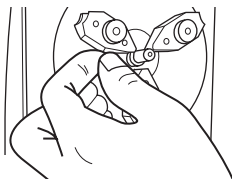

Fig. 1.1
For desired ring holding setup, loosen all three Locknuts (1) and reverse the three Self-Centering Jaws according to the diagram below. Secure the ring firmly in the grooves of the three Self-Centering Jaws by turning the Chucking Knob (5) clockwise (**Fig. 1.1**).